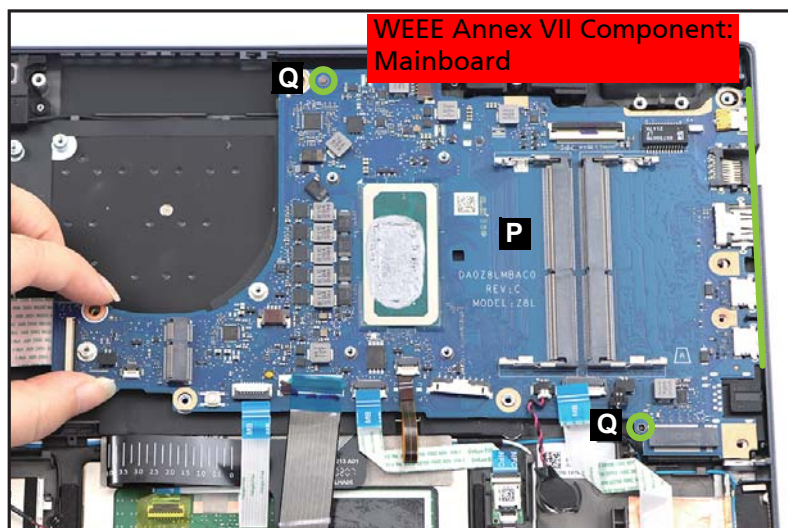

Figure 1-44. Mainboard Removal
14. Release the mainboard (P) from the I/O connectors slots and guide pins (Q) on the top assembly (Figure 1-44). Then remove the mainboard.